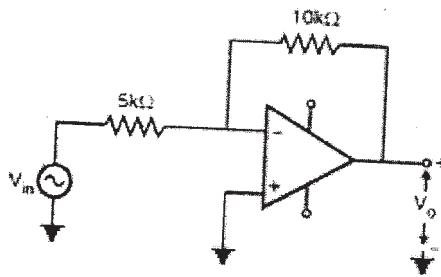

Figure 3
- c)** Explain the effect of offset voltage on active filter performance. The input to the inverter shown in Fig.3 is a sine wave of amplitude 5 volt. If the slew rate of the op amp is $1\text{V}/\mu\text{sec}$, find the frequency at which the slew rate limiting occurs. [6]